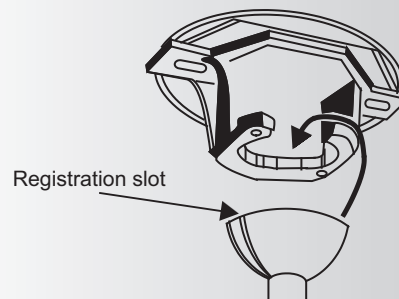

Fig. 7
Step 7. Place the downrod ball into the hanger bracket socket. (Fig. 7)